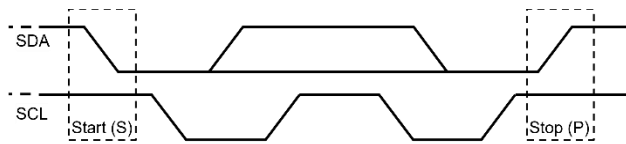

Figure 8: I²C Start and Stop Commands
All transactions must begin with a start (S) command and can be terminated with a stop (P) command. Start and stop commands are always generated by the master. A start command is defined by a high-to-low transition on the SDA line while SCL is high (see Figure 8). A stop command is defined by a low-to-high transition on the SDA line while the SCL is high (see Figure 8). The bus is considered busy after a start command and free after a stop command.